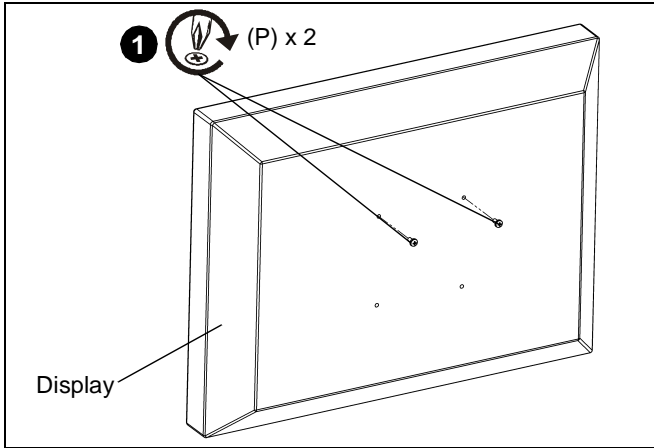

Figure 7
1. Install two M4 x 12mm Phillips pan head screws (P) into two upper mounting holes in display back using #2 Phillips screwdriver. (See Figure 7)